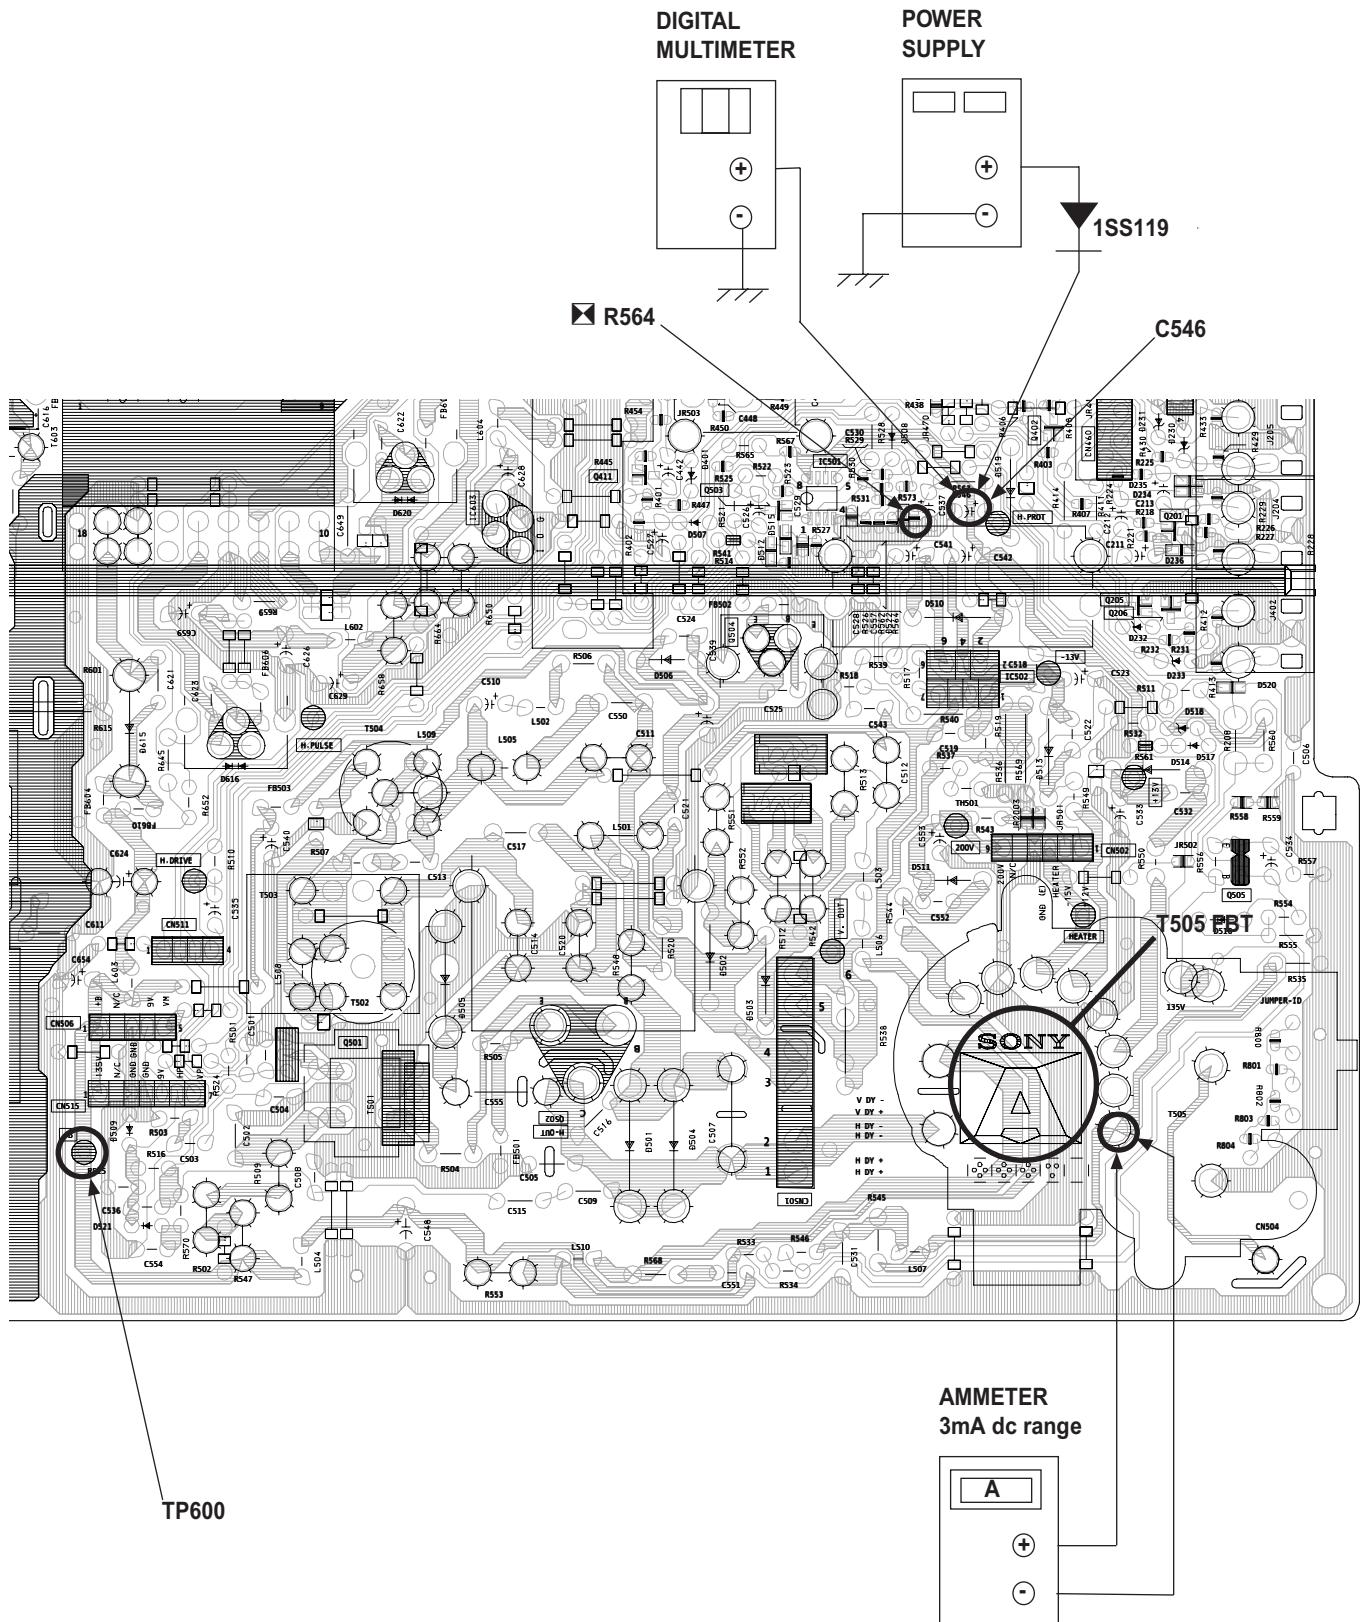

Figure 1
1. Connect the current meter between Pin 11 of the FBT (T505) and the PWB land where Pin 11 would normally attach (See Figure 1 on the next page).
4. Connect the digital voltmeter and the DC power supply via Diode 1SS119 to C546 (+) and ground (See Figure 1 on next page).